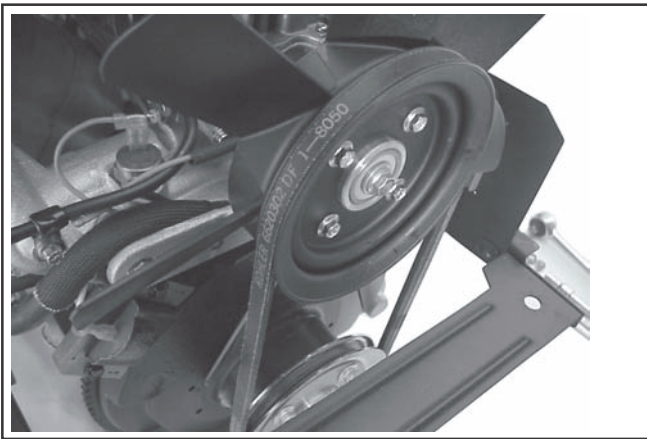

Figure 20. Pulley and Drive Belt.
3. The v-groove of each pulley (upper and lower) should not be bent, nicked, or damaged. Pulley mounting areas and lower pulley shims should be free of any cracks or elongation. See Figure 20.